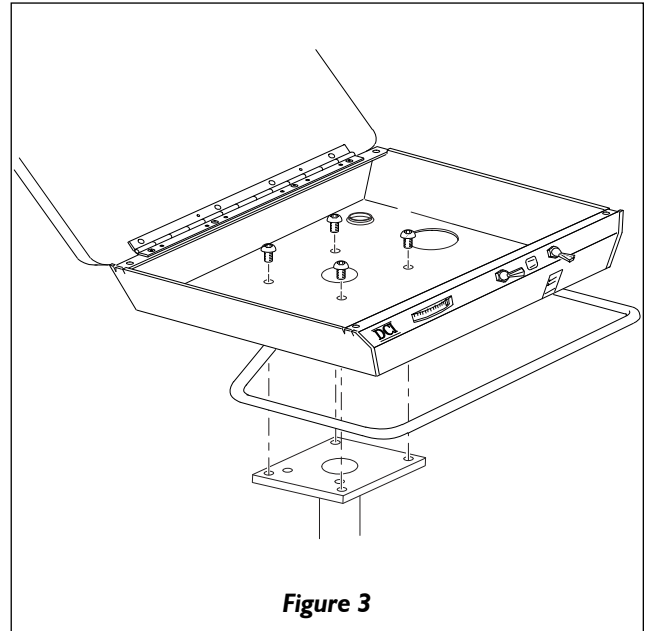

Figure 3
- b. Level the control head and tighten the set screws using a 3/32" hex key (*Figure 3*).